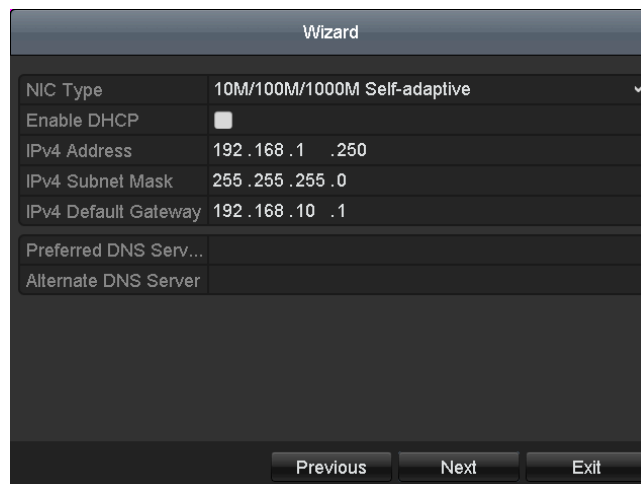

Figure 2.4 Network Configuration
- After the time settings, click **Next** which takes you to the Network Start Wizard window, as shown in Figure 2.4.